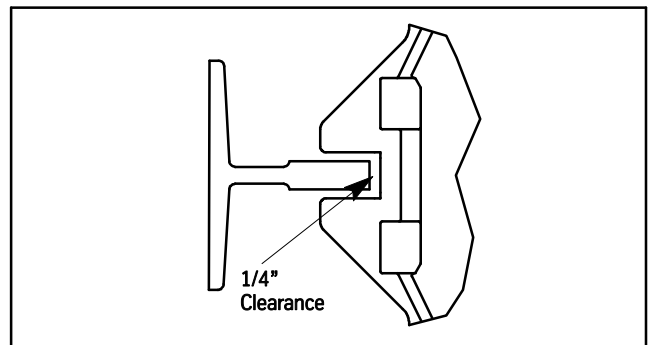

Figure 6 - Rail to Guide Throat Clearance
- The distance from the face of the rail to the back of the slot should be approximately $\frac{1}{4}$ ". See Figure 6.